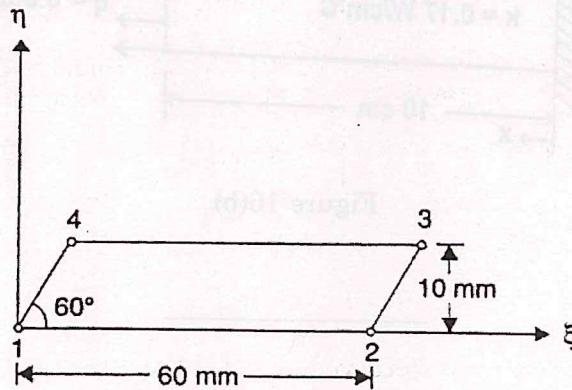

Figure 15 (a)
15. (a) Assemble Jacobian matrix and strain displacement matrix corresponding to the Gauss point (0.57735, 0.57735) for the element shown in Figure 15 (a).